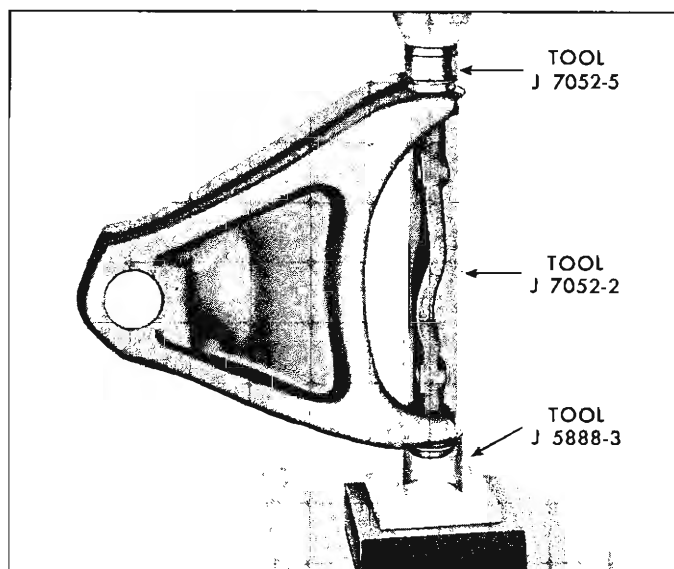

Fig. 24—Installing Upper Control Arm Cross Shaft Bushing
1. Install arm in arbor press with Tool J-7052-2 in place and press in one bushing while supported on Tool J-5888-3 as shown in Figure 24.